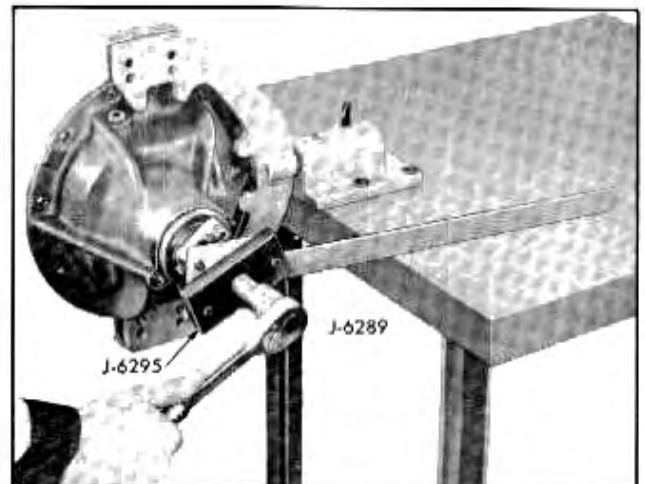

Fig. 4-27 Removing Companion Flange With Puller J-6295
6. Remove companion flange using Puller J-6295 and Holding Tool J-6289 (Fig. 4-27).